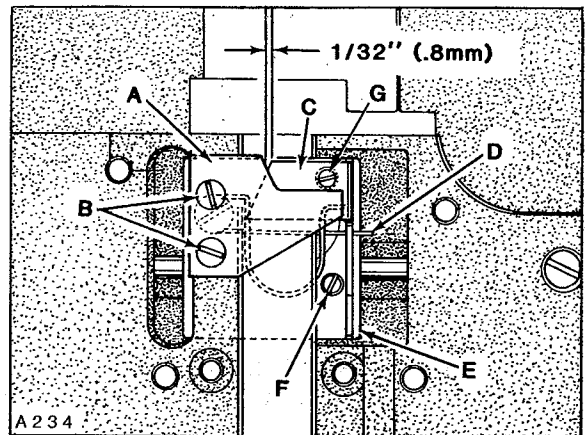
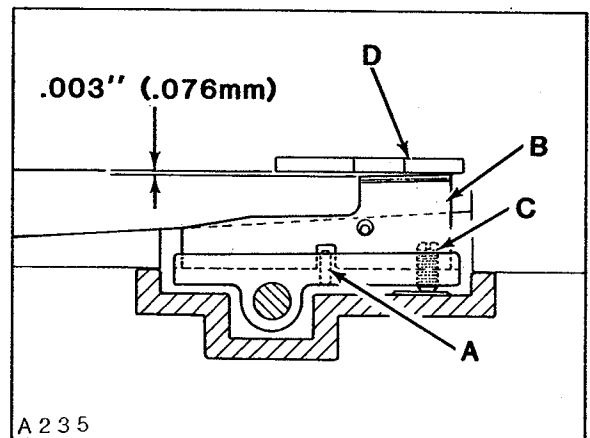

Fig. 31
Fig. 32
NOTE: References to Fig. 31 are as viewed from rear of machine; references to Fig. 32 are as viewed from left end of machine.
Upper knife (A, Fig. 31) can be replaced by removing two screws (B). In order to replace lower knife... the upper knife, rear cover and thread inlet must be removed. Lower knife (C) is held in position by roll pin (A, Fig. 32) and tension spring (D, Fig. 31). To remove lower knife, lift up and tilt to the right. When replacing lower knife, be sure to engage end of tension spring through the hole in the side of lower knife before inserting in the slide block (E). Also be sure that the slot in lower knife is located over roll pin.
**IMPORTANT!** Be sure that lower knife does NOT strike against knife housing or feed chamber cover. Adjustment should be accomplished by loosening one screw (F, Fig. 31) and reposition left or right slightly.
Carefully press against slide block (E, Fig. 31) until air motor stalls.
With treadle still depressed, check the knife cross over. The cross over of the lower knife to the upper knife is positioned correctly, when the lower knife is 1/32 inch (.8mm) from the front of the upper knife as shown in Figure 31. If adjustment is required, loosen screw (F), reposition slide block (E) slightly as required. Retighten screw (F) and recheck cross over.
Shear angle should be .003 inch (.076mm), measured at rear cutting edge of lower knife (B, Fig. 32) and cutting edge of upper knife (D).
Adjustment can be made by turning lower knife adjusting screw (C, Fig. 32) counterclockwise (a small amount at a time) while manually
operating slide block (E, Fig. 31) continuously checking with a piece of thread to see if knives are cutting. As soon as the knives fail to cut the thread and the shear angle is zero, turn screw (C, Fig. 32), same as (G, Fig. 31) clockwise approximately 1/4 turn. Check cutting action of knives with sewing motor switch "ON".